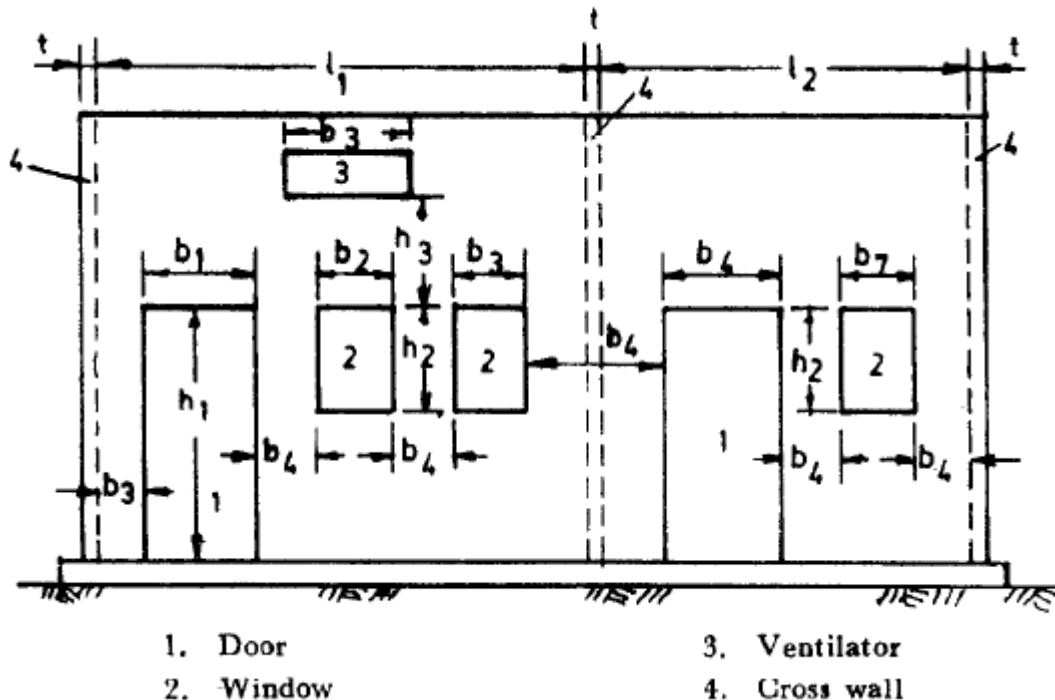

Fig 5:- Recommendations of IS 13828:1993
- Figure 5 shows recommendations for masonry house in IS 13828:1993